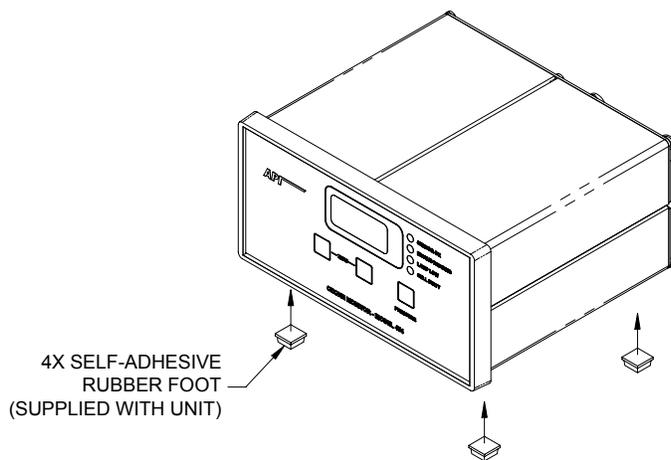

Figure 4-1: Bench Top Installation
| FIGURE 4-1: BENCH TOP INSTALLATION..... | 4-1 |
Affix the four(4) self-adhesive rubber feet to the bottom of the chassis as shown in Figure 4-1 below.